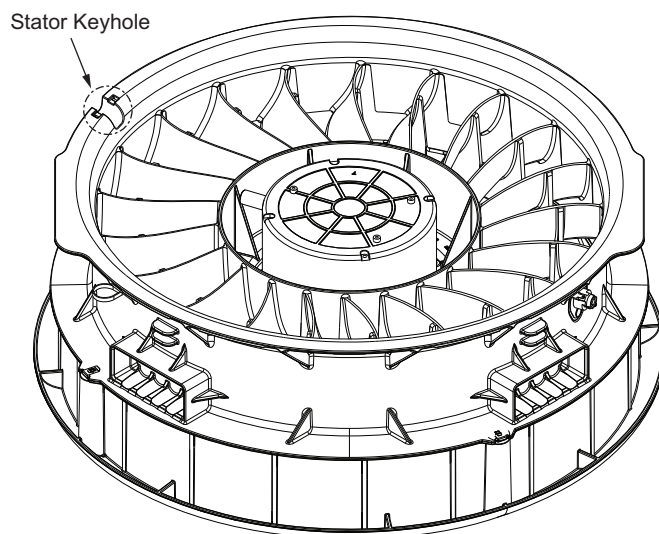

Fig. 30 — Stator Keyhole Location
3. Fit motor wire harness into keyhole feature on the side of the stator and pull wire harness out prior to fixing the motor to the stator. See Fig. 30.